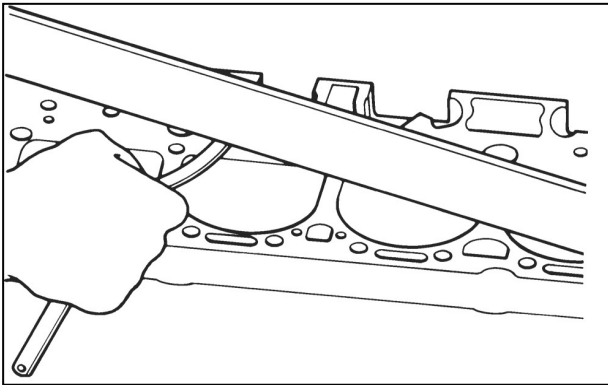

Figure 12-51 Measuring Cylinder Head Surface
- Cylinder head for surface flatness (figure 12-51).